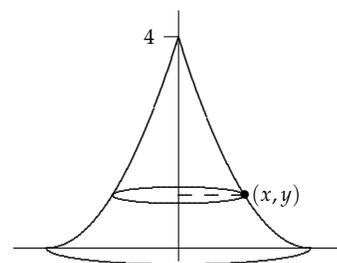

Figure 8.6: The circular cross-section formed by rotating the point  $(x, y)$  about the  $y$ -axis has radius  $r = x = \sqrt{y} - 2$ .
**YOU TRY IT 8.3.** Suppose that a tank is formed by rotating the region in the first quadrant enclosed by  $y = (x + 2)^2$ , the  $y$ -axis, and the  $x$ -axis about the  $y$ -axis (see Figure 8.6).